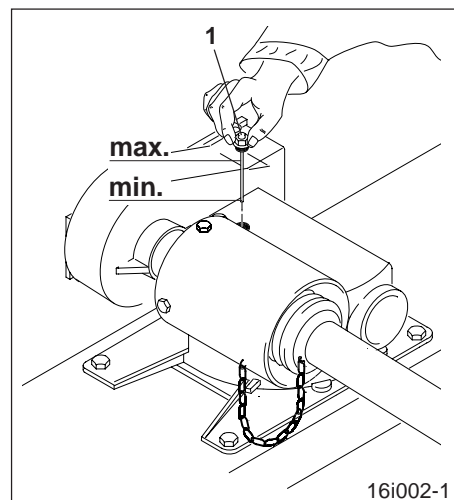

Fig. 9.9
channel of the oil level plunger (Fig. 9.9/1), provided the oil is still clean.
- Check the oil level on the oil level plunger (Fig. 9.9/1) with the soil tillage implement in horizontal position. The oil coating must be visible on the oil level plunger (Fig. 9.9/1) below the "max." mark. If necessary top up gear oil.
- Check the oil level on the oil level plunger (Fig. 9.9/1) with the soil tillage implement in horizontal position. Top up oil if necessary. The oil coat must be visible on the oil level plunger (Fig. 9.9/1) below the "max."-mark. The total quantity of oil 85 W 90 is: 4.8 l.